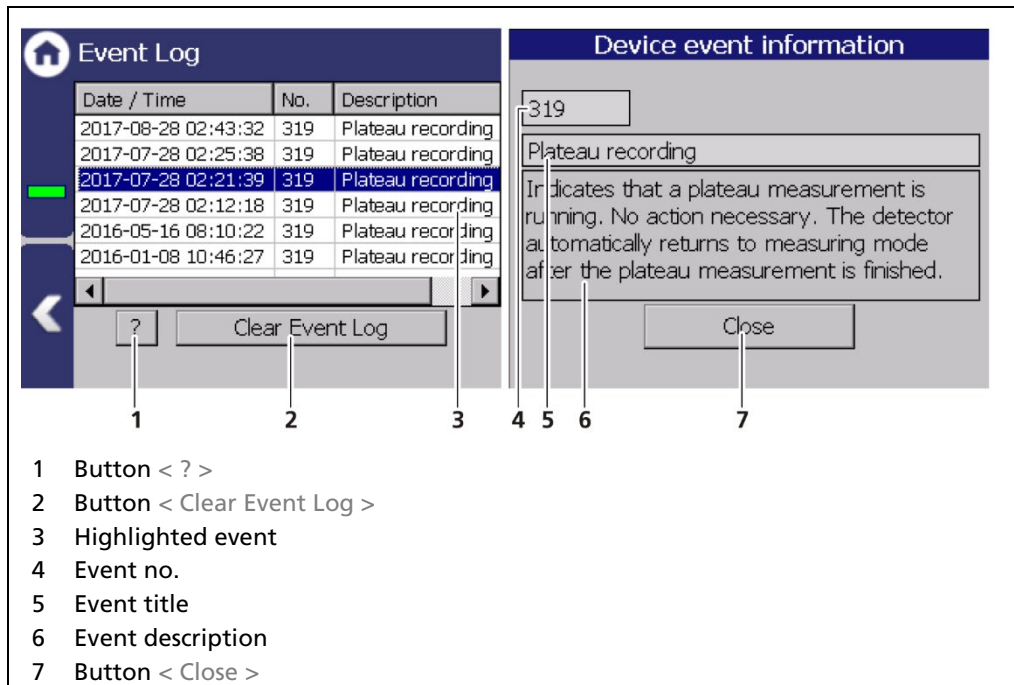

Fig. 70 Event Log
1. Click on a line in the list (Fig. 70, item 3).
2. Click on < ? > (Fig. 70, item 1)
3. With the button < Close >, close the event description (Fig. 70, item 7).
- ▶ With the button < Clear event log > (Fig. 70, item 2) all events are deleted.